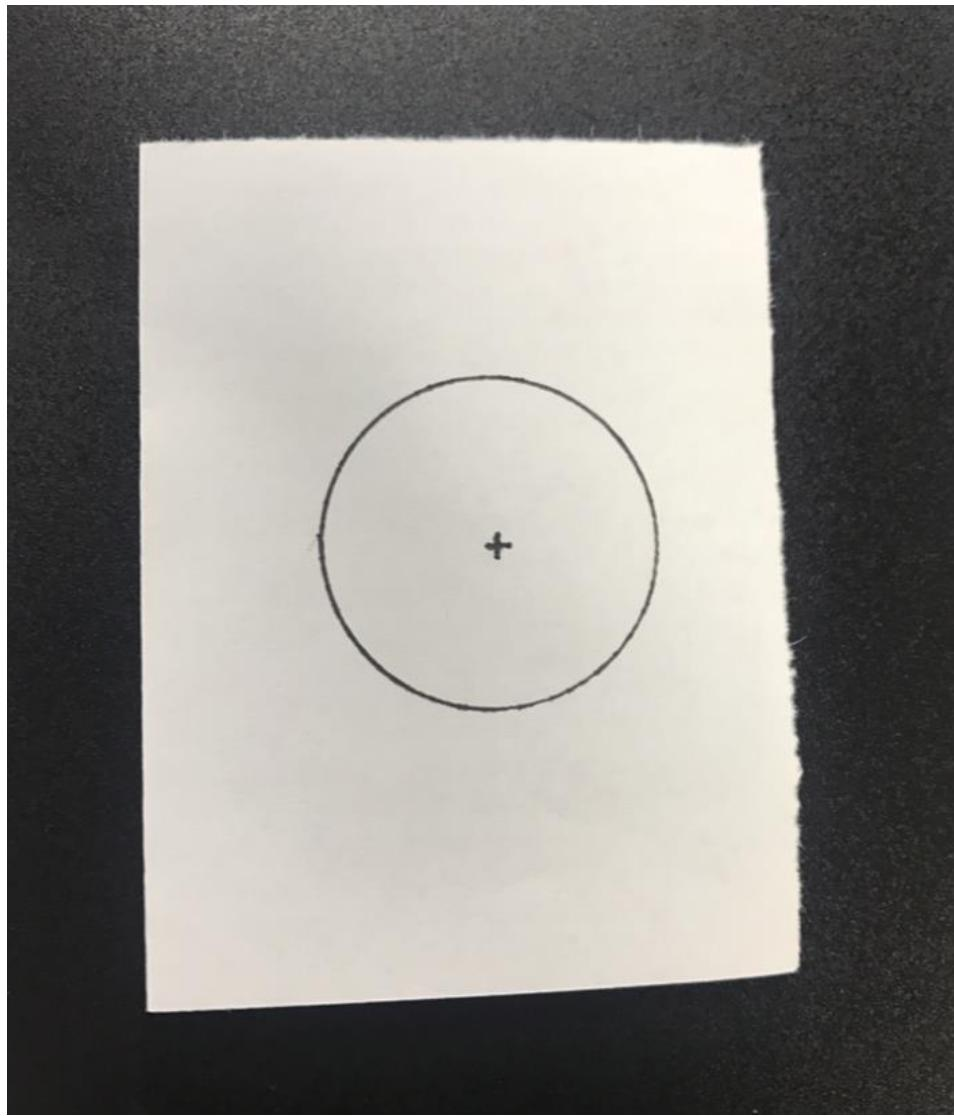

Figure 5.6 Put down a label on the conveyor
**Step 4** Put down a label on the conveyor, as shown in Figure 5.6.